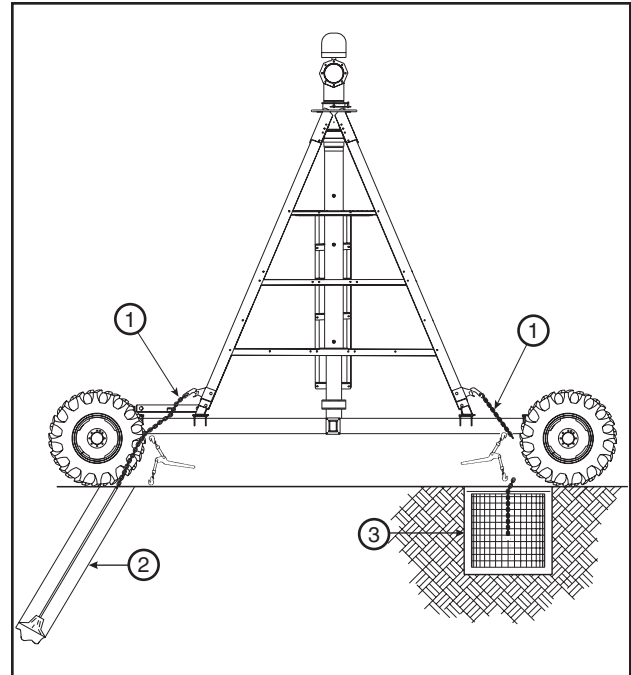

Figure 87-1 1. Chains
- Attach the anchor chains and secure the cart to the pivot point. See figure 87-1.